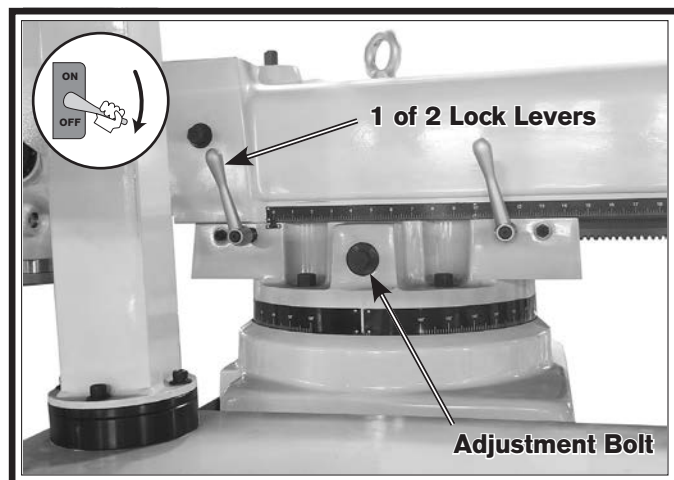

Figure 24. Ram forward and backward movement controls.
2. Loosen two lock levers shown in **Figure 24** on right side of ram.
3. Make sure there are no obstructions to ram travel, especially with spindle tool around workpiece, then slowly rotate adjustment bolt (see **Figure 24**) to move ram. Rotating bolt clockwise will move ram backward.